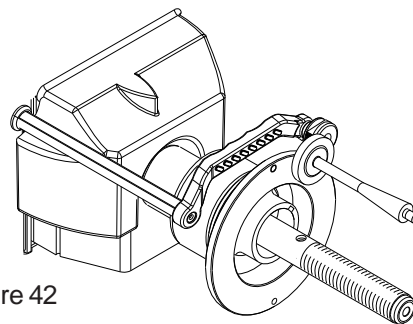

Figure 42
2. Pull the distance gage to the outside flange of the backing collar, use the flat head of the calibration weight as an index. After a short beep, the machine displays “bAC H POS”. Return the arm to the rest position. See Figure 42.